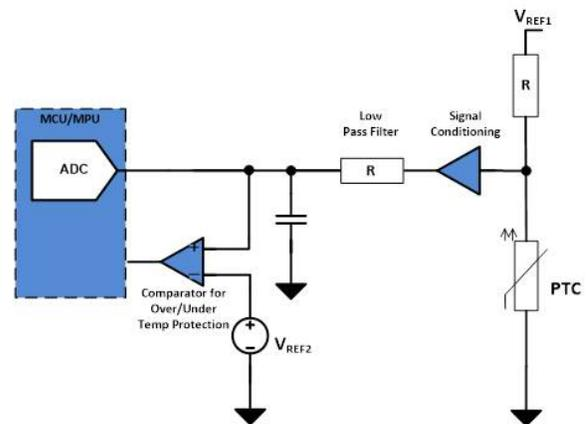

Figure 4. Example Discrete Implementation of a Temperature Monitor and Switch
A typical thermistor-conditioning circuit is shown in Figure 4. Thermal management can be achieved by actively monitoring the battery cells using an ADC, or by using the output of the thermistor to compare it to a reference voltage for overtemperature (OT) or undertemperature (UT) protection.